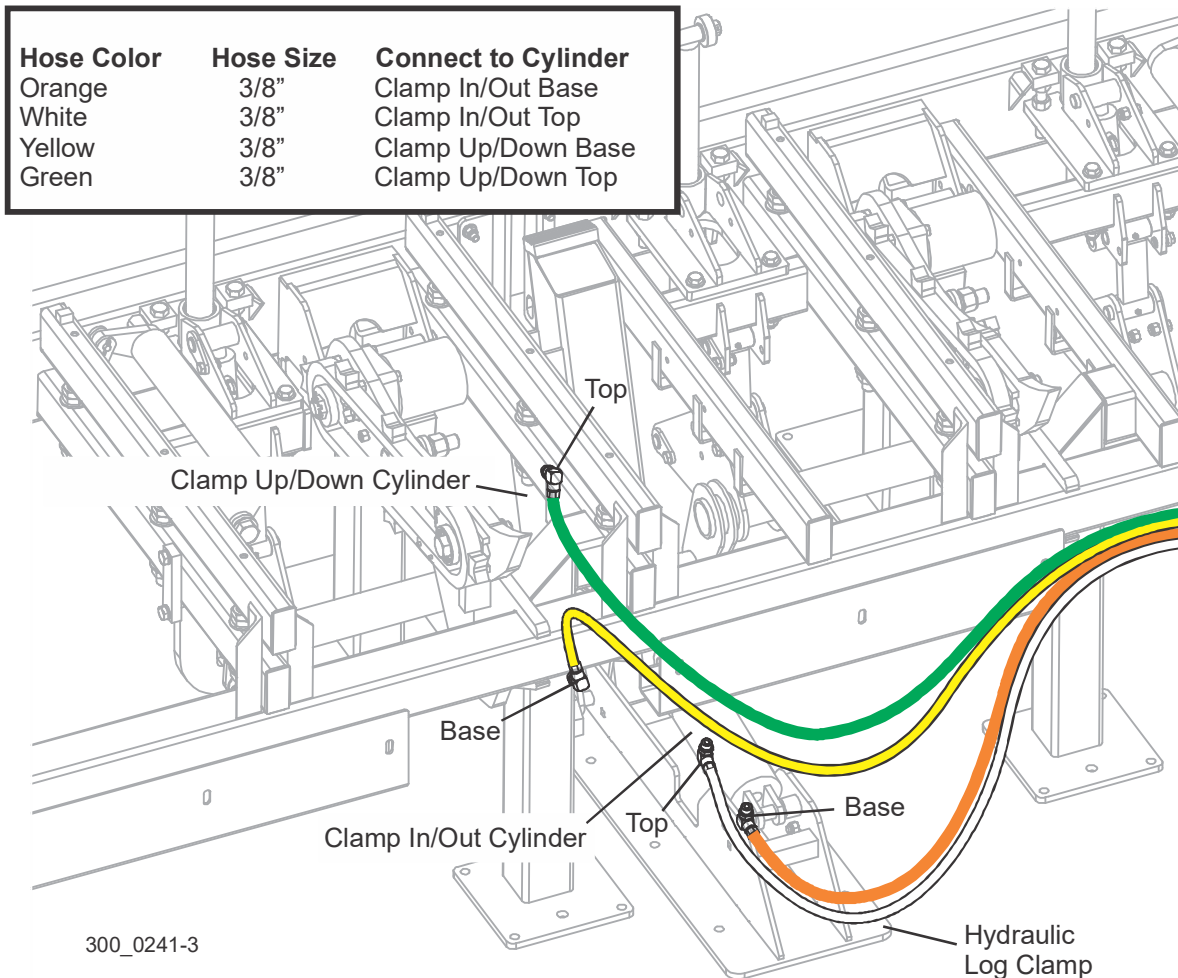

FIG. 3-26
13. Connect each hose to the appropriate fitting on the hydraulic log clamp. See Fig. 3-26.